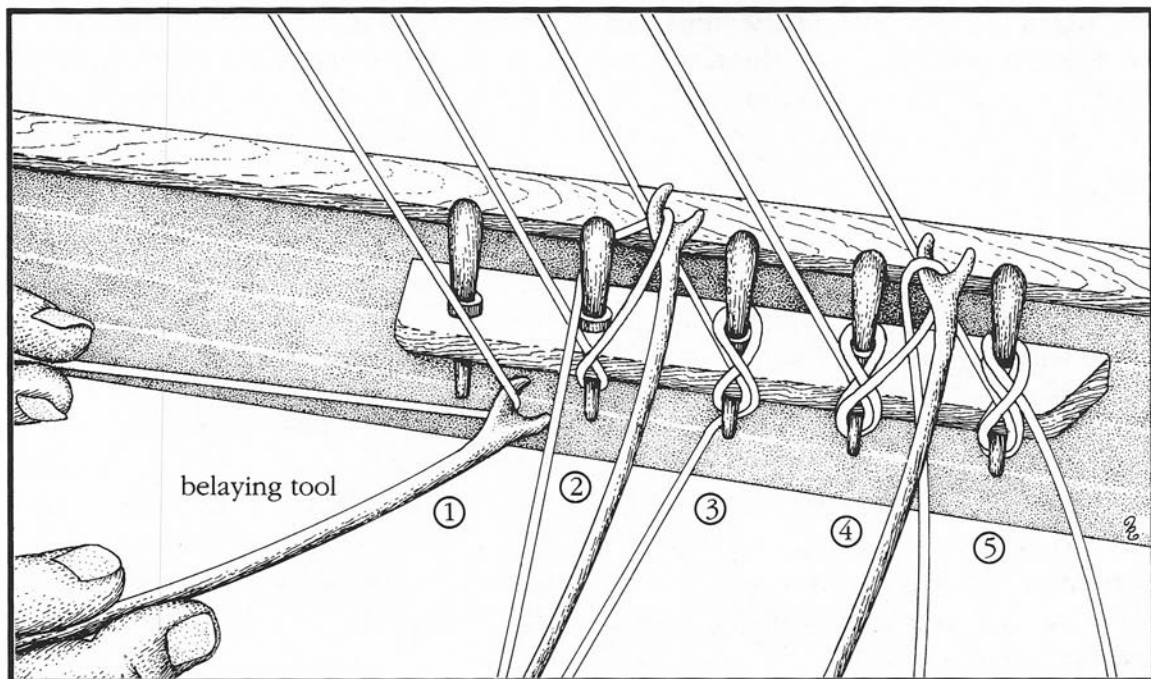

FIGURE 64. *Belaying lines to pins — make yourself a belaying tool and follow this sequence from left to right.*
To belay a rigging line to a pin you wrap the line around the pin in a figure eight fashion, as we see in Figure 64. You'll need a belaying tool — you can buy one at a hobby shop or you can make one. If you opt for the latter, find a stiff wire, such as a wire clothes hanger. Heat the tip of the wire over a flame and flatten it with a hammer on a steel plate. With a small triangular file cut a groove at the flattened end of the wire to catch the rigging line (1). Make sure that this part is not too wide and the groove is not too deep, otherwise you will be unable to insert the tool between the pins and wrap the line around them.